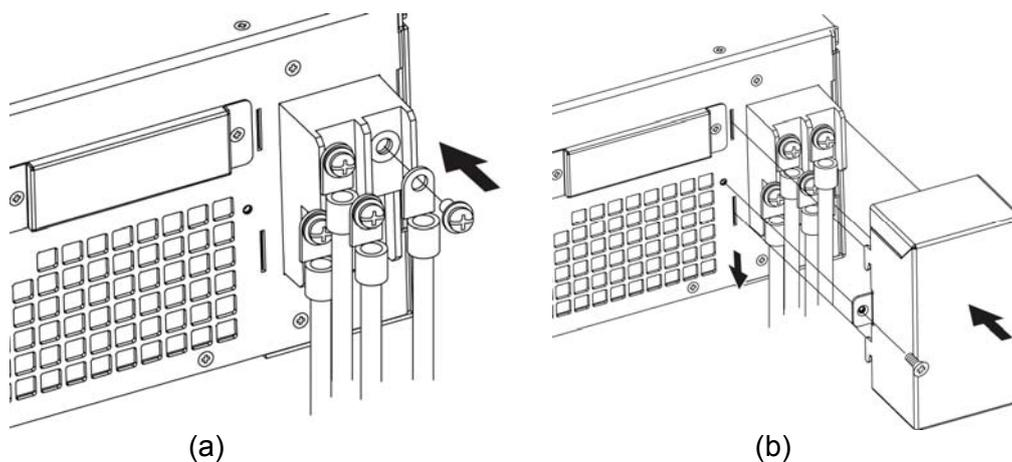

Figure 2-3
- (1) The input connector board is located at the right of rear panel.
- (2) The power line must be 85°C rated at least.
- (3) The power cable width must be within 6AWG~8AWG.
- (4) To assemble 62000H → see Figure 2-3 (a), (b) and execute the following steps: